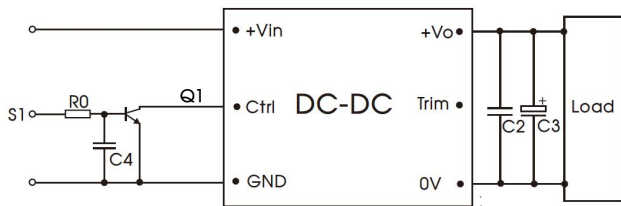

Fig.3
- (1) We recommended using Mornsun’s EMC circuit, otherwise please ensure that at least a 100μF electrolytic capacitors is connected at the input in order to ensure adequate voltage surge suppression and protection.
- (2) Output ripple can be further reduced by appropriately increasing the output capacitor values Cin, Cout and/or by selecting capacitors with a low ESR (equivalent series resistance). Also make sure that the capacitance is not exceeding the specified max. capacitance load value of the product.
- (3) The recommended circuit for Ctrl function please refer to Fig.3.